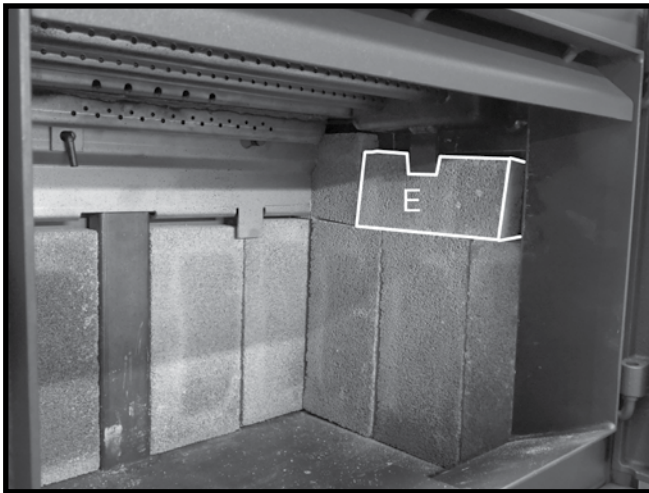
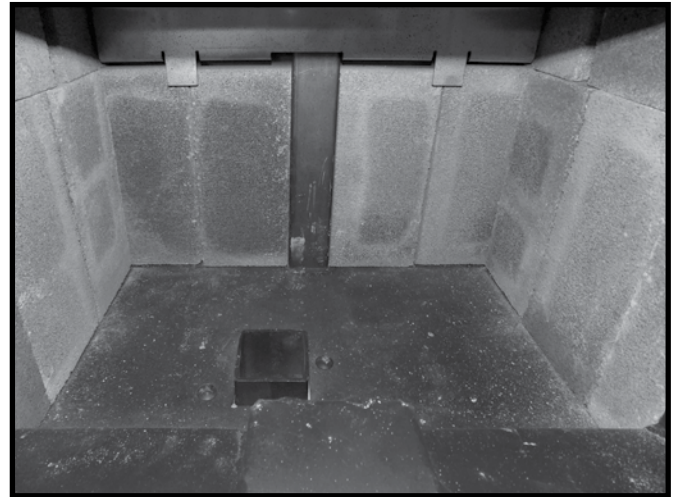

Figure 26: Final side wall firebrick in position.
Figure 27: Firebox floor with ash dump.
7. Slide an "E" firebrick under the side wall brick rail tab and rest on top of the three previously placed side wall firebricks (Figure 26). Repeat steps 4-7 on the other side (Figure 27).